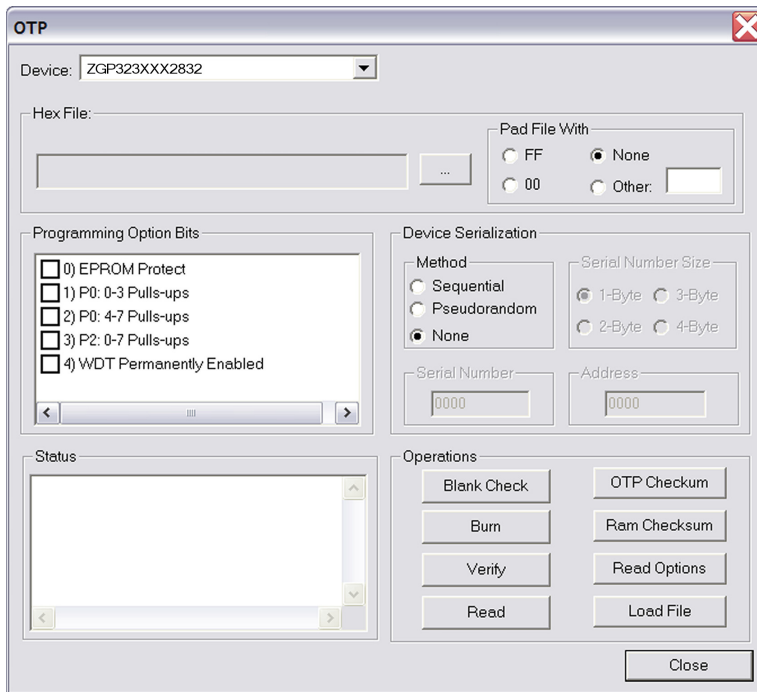

Figure 4. OTP Programming Window (Hex File Example)
7. Select **Tools > OTP Programming** to open the OTP window (Figure 4).